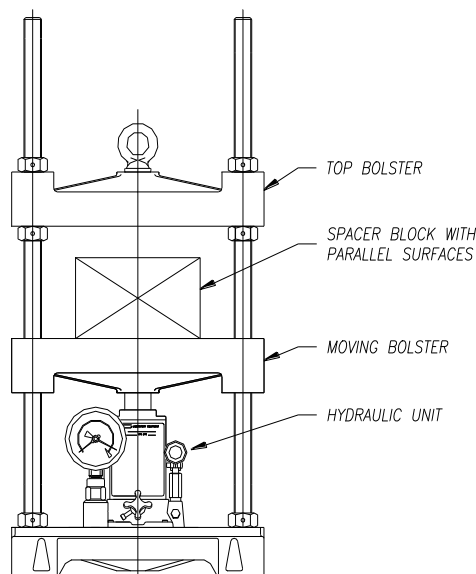
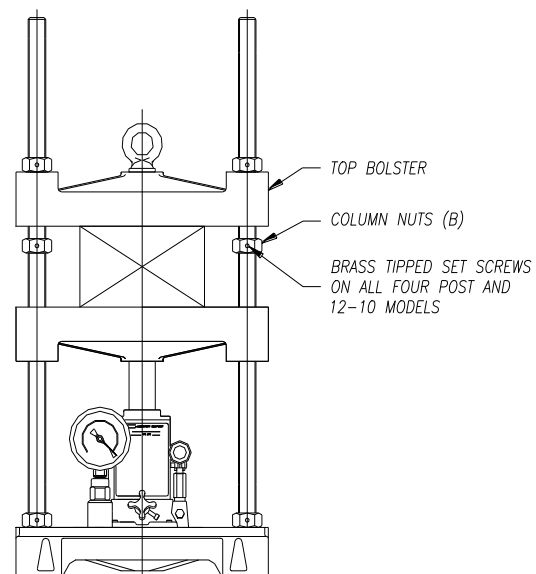
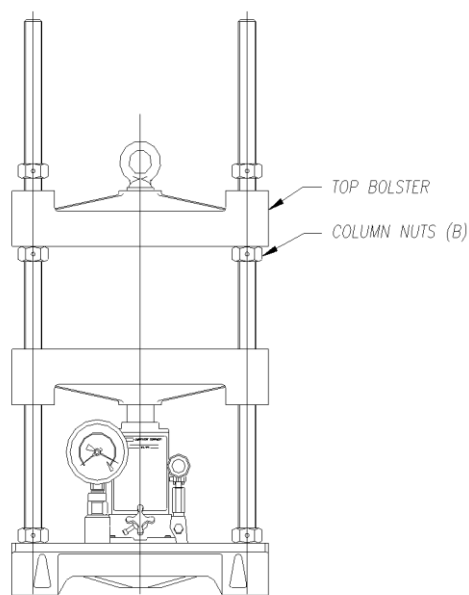

FIGURE 4-1
FIGURE 4-2
FIGURE 4-3
1. Insert a spacer block with parallel surfaces between the moving bolster and top bolster (spacer must be tall enough to build force on the spacer), pump the hydraulic unit to build force to the maximum capacity of the press (FIG 4-1).
2. With the press at maximum applied force, loosen the column nuts (B) located directly below the top bolster. (FIG 4-2) On Four Post and Model 12-10 presses, a brass tipped set screw must be loosened on each nut before nuts are loosened.
3. Release hydraulic force and remove the spacer, allowing the top bolster to rest on the lower column nuts (B) (FIG 4-3).
1. Insert a spacer block with parallel surfaces between the moving bolster and top bolster (spacer must be tall enough to build force on the spacer) (FIG 4-1), pump the hydraulic unit to build force to the maximum capacity of the press (FIG 4-2).
2. With the press at maximum applied force, loosen the column nuts (B) located directly below the top bolster. Move these column nuts (B) to the position required creating the desired daylight. On Four Post and model 12-10 presses, a brass tipped set screw must be loosened on each nut before nuts are loosened.
3. Release hydraulic force and remove the spacer allowing the top bolster to rest on the lower column nuts (B) (FIG 4-3).
4. Tighten the upper column nuts (A) finger tight against the top surface of the top bolster.